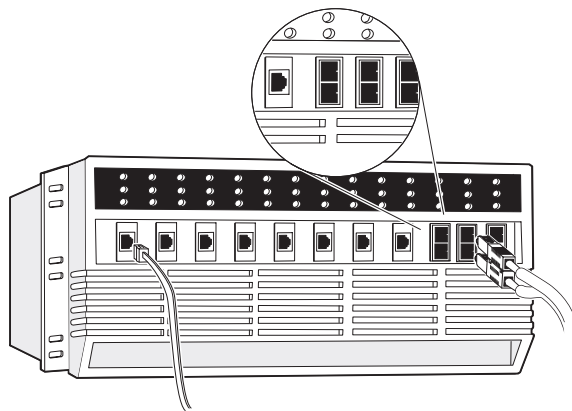

Figure 3-3. Connecting the UTP/STP Cable to the ATM Switch
- 3 Connect the RJ-45 connector at the other end of the cable to the ATM wall port or directly to the RJ-45 socket on the ATM switch, as illustrated in Figure 3-3. See your system administrator for assistance.